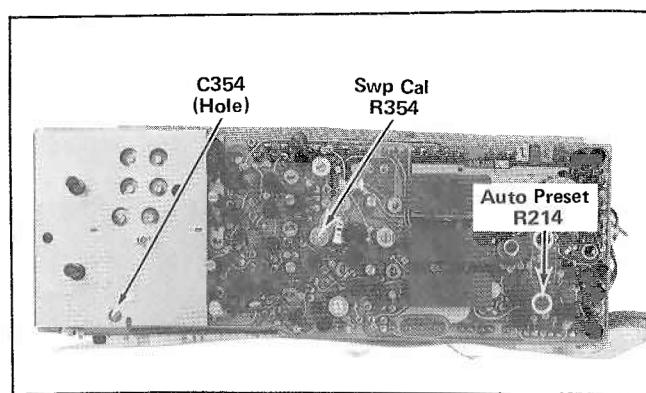

Fig. 5-9. Location of Sweep Cal and Auto Preset adjustments.
- f. Adjust the AUTO PRESET (R214) side panel screwdriver adjustment for a triggered display. See Fig. 5-9.
g. Adjust the SWP CAL adjustment R354 so that the time marks align with the center eight graticule lines. See Fig. 5-9.
l. Adjust C354 so that the time marks align with the center eight graticule lines. See Fig. 5-9.